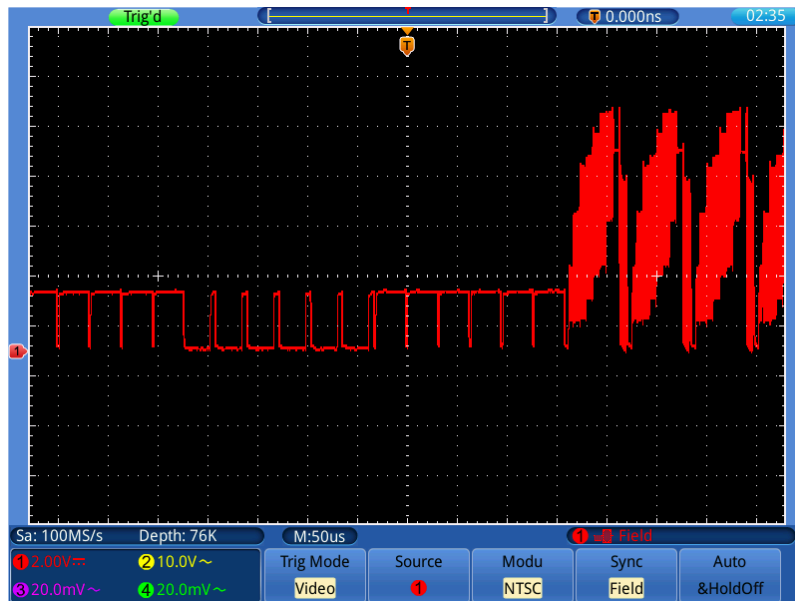

Figure 7-7 Waveform Captured from Video Field Trigger
- (1) Press the **TRIGGER Menu** button.
- (2) Select **Trig Mode** in the bottom menu; select **Video** in the left menu.
- (3) Select **Source** in the bottom menu; select ① in the left menu.
- (4) Select **Modu** in the bottom menu; select **NTSC** in the right menu.
- (5) Select **Sync** in the bottom menu; select **Field** in the right menu.
- (6) Turn the **VOLTS/DIV**, **VERTICAL POSITION** and **SEC/DIV** knobs to obtain a proper waveform display (see *Figure 7-7*).